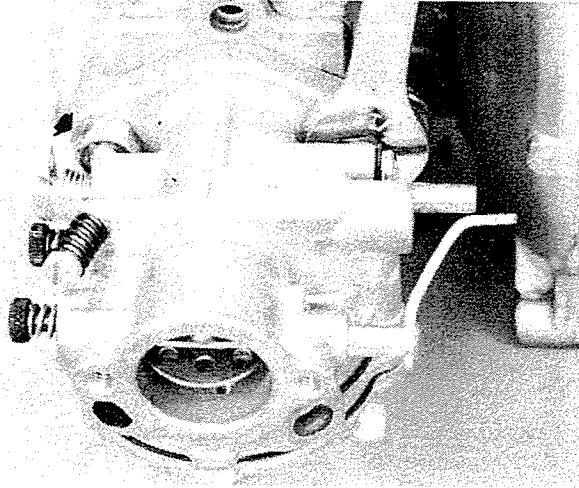

Figure 8. Removing Carburetor.
4. Remove carburetor from reed plate or carburetor elbow. Figure 8.